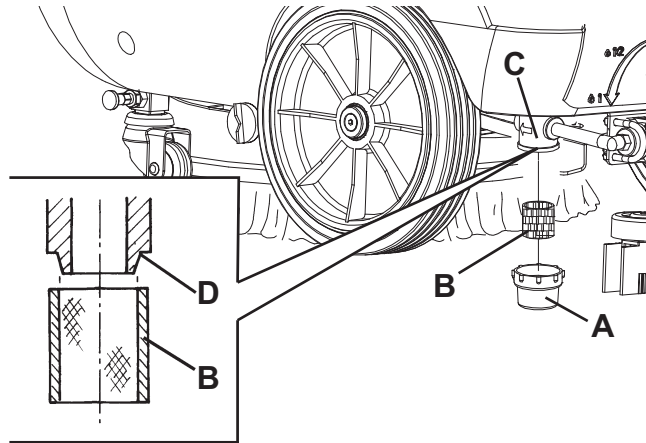

Figure 6
9. Empty the solution tank (27) as shown in the relevant paragraph.
11. Make sure that the power supply cable (21) is disconnected from the electrical mains.
12. Remove the transparent cover (A, Fig. 6), then remove the filter strainer (B). Clean and install them on the support (C).